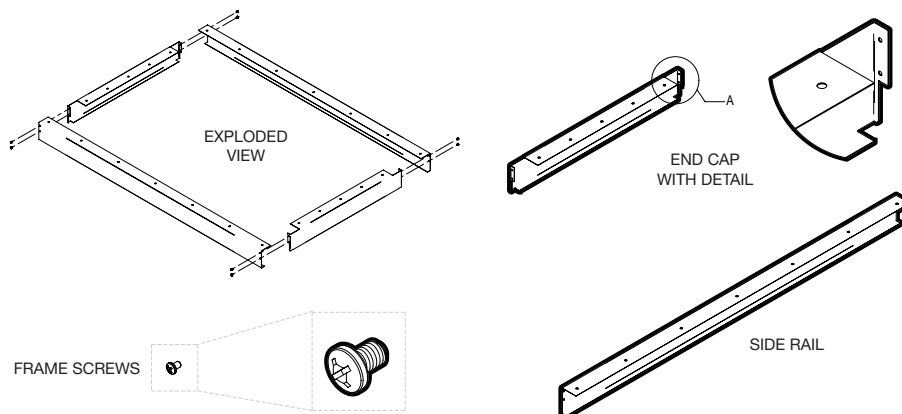

Figure 2
1. Identify the end caps and side rails (Fig. 2, end cap detail A).